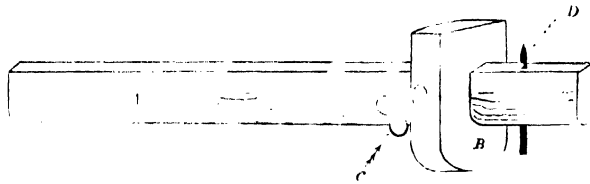

Fig. 31.
**Marking Gauge.**—This is used for making lines on wood parallel to one edge. It consists of four parts: A, the stem, (Fig. 31) which passes through the stock, B, to which it may be firmly fixed in any position by